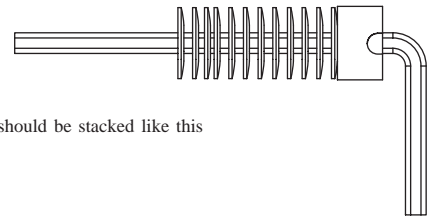

Figure E-1B
- ❑ 1. Locate the 5/64" Allen Wrench (59) supplied with the kit. Place the Diff Nut(57), tab side first, over the Allen Wrench.
- ❑ 2. Stack 12 Belleville Washers (58) over the Wrench, next to the Diff Nut. The Washers should all point the same direction with the concave side facing away from the Diff Nut as shown in *Figure E-1B*.